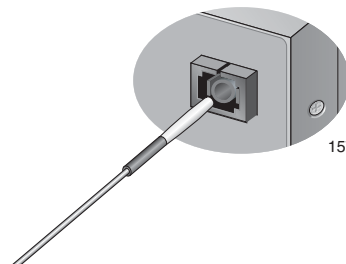

Figure 56. Cleaning a Recessed Ferrule
1. Insert the swab into the adapter as shown in Figure 56 and rub the ferrule tip with the swab.